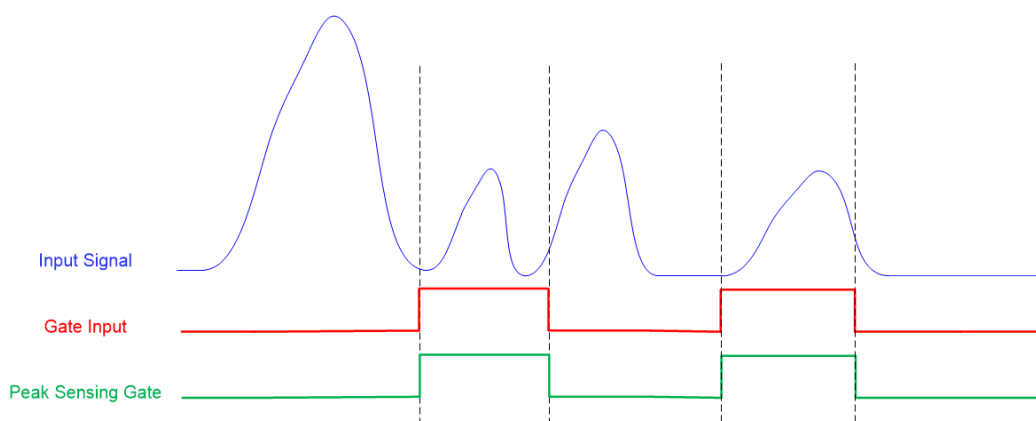

Figure 8.2: Gate mode acquisition: the gate width is equal to the input gate width
- **gate mode** (level sensitive): the gate lasts for the duration of the GATE input signal (see **Figure 8.2**);